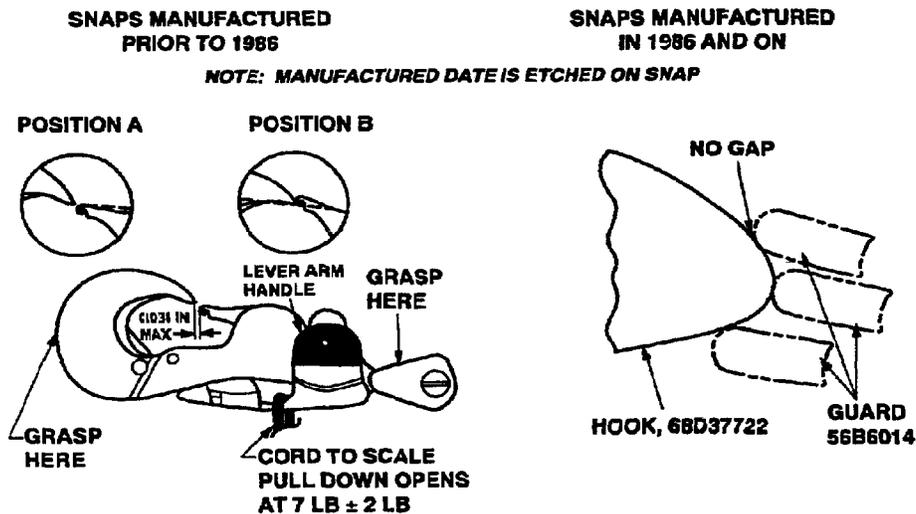

Figure 4. Hook and Guard Alignment
(1) Inspect ejector snaps for alignment of guard with hook. Allowable positions of snap guard are between positions A and B where the top of the guard is aligned with the points of hook (position A) or the bottom of the guard is aligned with the point of the hook (position B) (Figure 4).
(2) Using "V" ring, insert into ejector snap. Ensure ejector snap safety guard closes.
(3) Perform pull force test on ejector snaps. Pull force required to release ejector snap should be 7 ± 2 pounds. The ejector snap lever may be adjusted (spread or crimped) to obtain the required pull (Figure 4).
(4) Ejector snaps failing the routine inspection shall be adjusted/removed from service. It shall be the responsibility of the routine inspection to remove and replace ejector snaps found defective during this inspection.